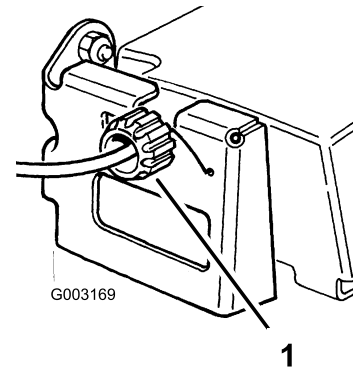

Figure 30
2. Rotate the control knob clockwise a half turn if the machine does not self-propel. If the machine creeps forward, rotate the knob a half turn counterclockwise to loosen the belt (Figure 30).